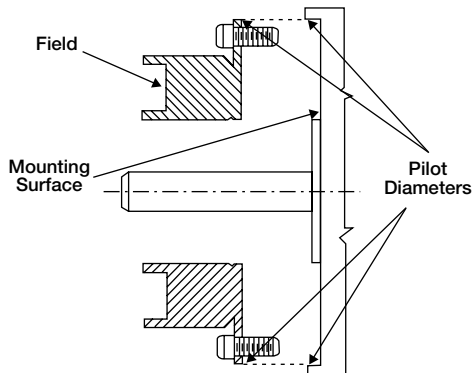

Figure 1
2. An appropriate pilot diameter must be provided on the mounting surface as well. (Figure 1)